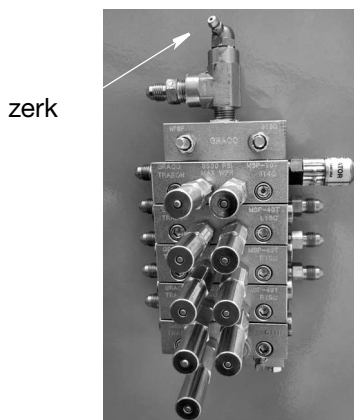

FIG. 8
3. Install grease zerk fittings and zerk cover (FIG. 8).